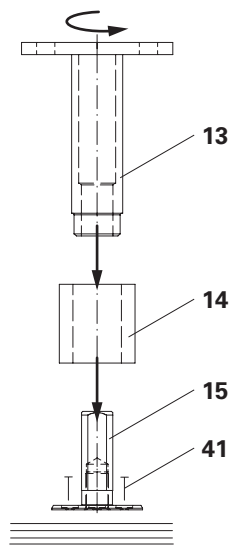
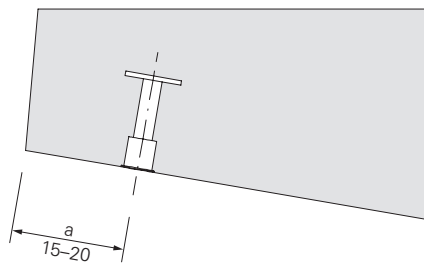

Fig. A5.01
Fig. A5.01a
1. Fix Anchor Positioning Stud M24 x 65 (**15**) to the formwork panel by means of four wire nails 3 x 80 (**41**). Take into consideration edge spacing "a" (Fig. A5.01 + Fig. A5.01a)
3. Screw Anchor Sleeve M24 (**13**) onto the Anchor Positioning Stud M24 x 65 (**15**) as far as it will go. (Fig. A5.01)